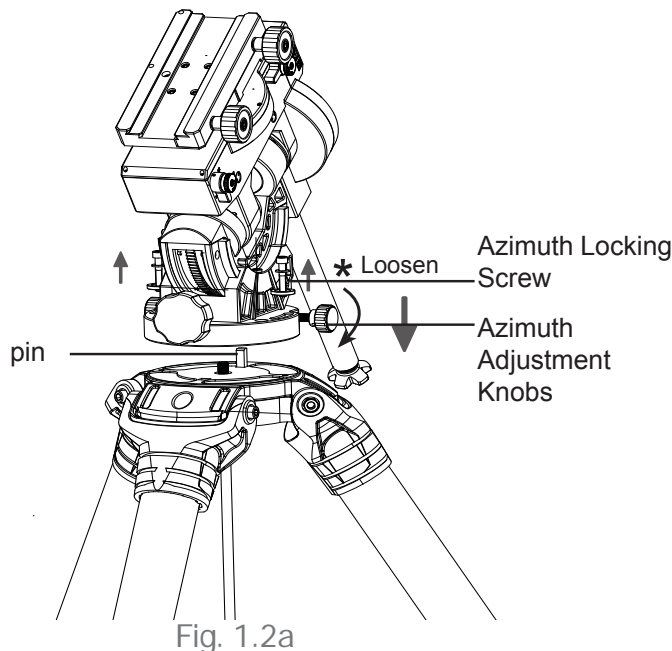

Fig. 1.2a
- Screw the two separately supplied azimuth adjustment knobs in the CQ350-PRO mount, but keep sufficient space between the two knob screws to allow for the tripod pin (Fig. 1.2a, 1.2b). Remove the two pre-installed azimuth lockingscrews and washers from the tripod top plate.
- Pass the 2 azimuth lockingscrews (first through a metal washer and a plastic spacer) through the curved slots on both sides of the equatorial mount base and tighten them loosely onto the tripod platform to secure the mount on the tripod (Fig. 1.2a).